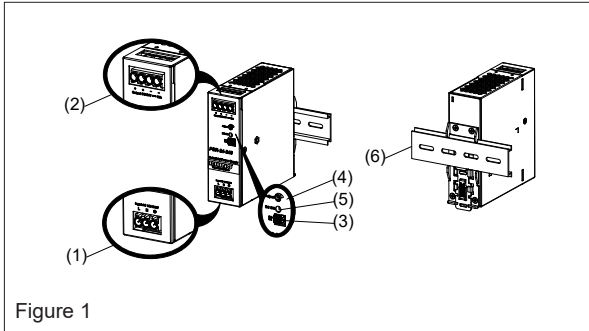

Figure 1
2. Device description (Fig. 1)
4.1. Input connection (Fig. 1, Fig. 6)
Use L, N and PE connections of input terminal connector (see Fig. 1 (1)) to establish the 100-240Vac connection. The device has an internal fuse. The unit is tested and approved with branch circuit protective device up to 20A.
4.2. Output Connection (Fig. 1 (2))
Use the "+" and "-" screw connections to establish the 24 VDC connection. The output provides 24 VDC. The output voltage can be adjusted from 24 to 28 VDC on the potentiometer. The green LED DC OK displays correct function of the output (Fig. 1 (5)). The device has a short circuit and overload protection and an over voltage protection limited to < 34 VDC.